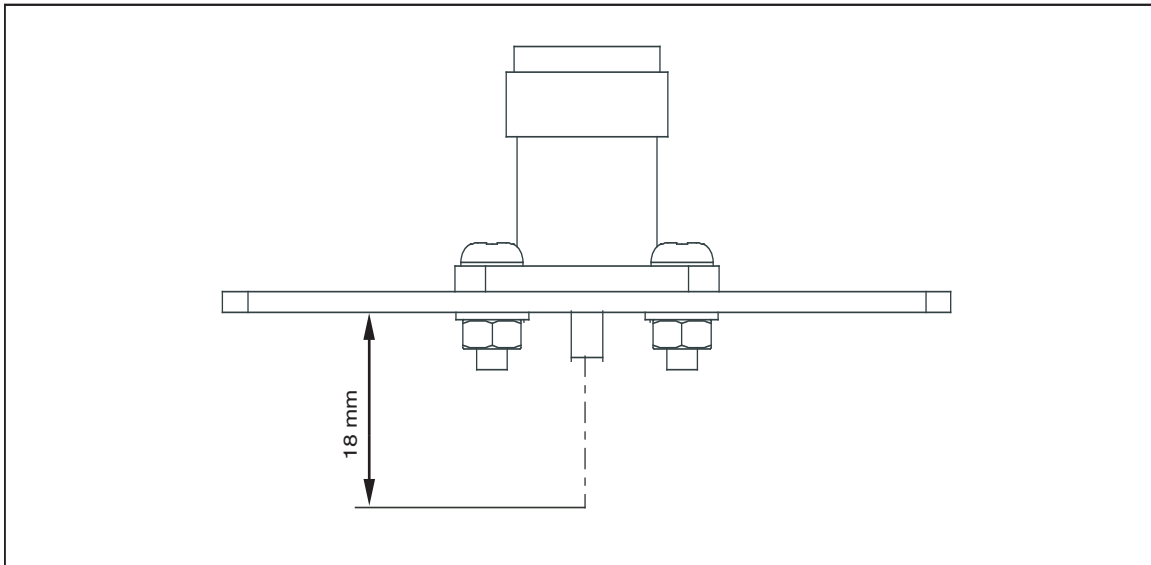

Figure 13. Output Voltage Connector
4. The inner pin of the N-type connector is connected by 18 mm (0.71 inches) of 20 SWG tinned copper wire to PCB B. See Figure 13. Working between and taking care not to damage the PCB struts, melt the solder attaching the wire from the back of PCB B and withdraw the N-type connector. It may be necessary to repeat both solder removal steps until both the base and the center pin are free.